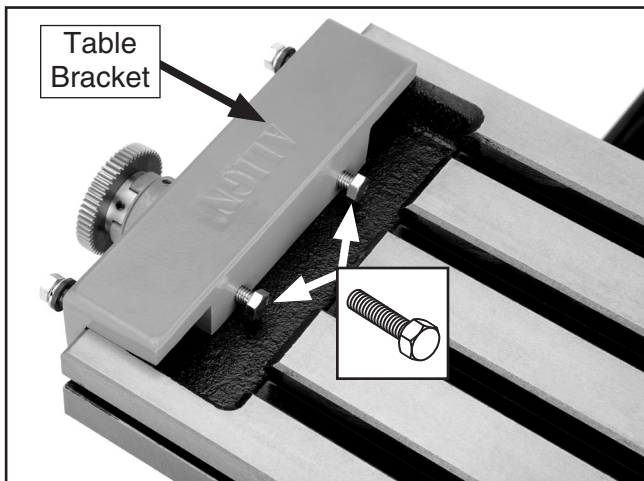

Figure 5. Table bracket mounted on the lip of the table trough.
- Separate the two pieces of the mounting assembly, then place the table bracket over the lip of the table trough, as shown in **Figure 5**.